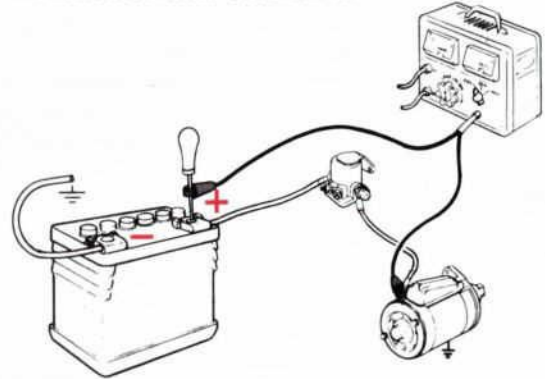

Figure 9—Battery to Starter Circuit Resistance Test
**Battery to Starter**—Connect the positive lead of a voltmeter to the positive battery post (Fig. 9). Connect the voltmeter negative lead to the starting motor terminal. Crank the engine. A voltmeter reading in excess of 0.5 volts indicates excessive resistance.